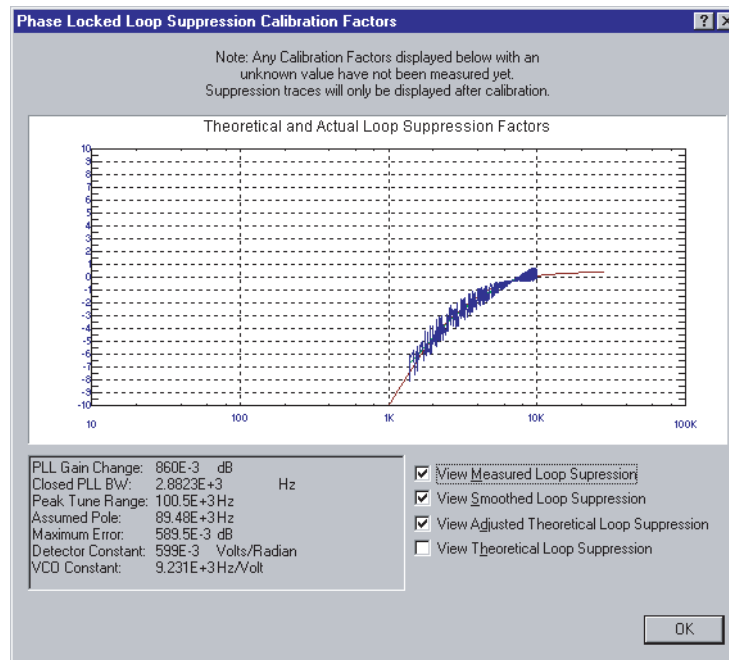

Figure 46 Selecting suppression
- 2 When the PLL Suppression Curve dialog box appears, check View Measured Loop Suppression, View Smoothed Loop Suppression, and View Adjusted Loop Suppression in the lower right of the dialog box. See Figure 46 on page 80.